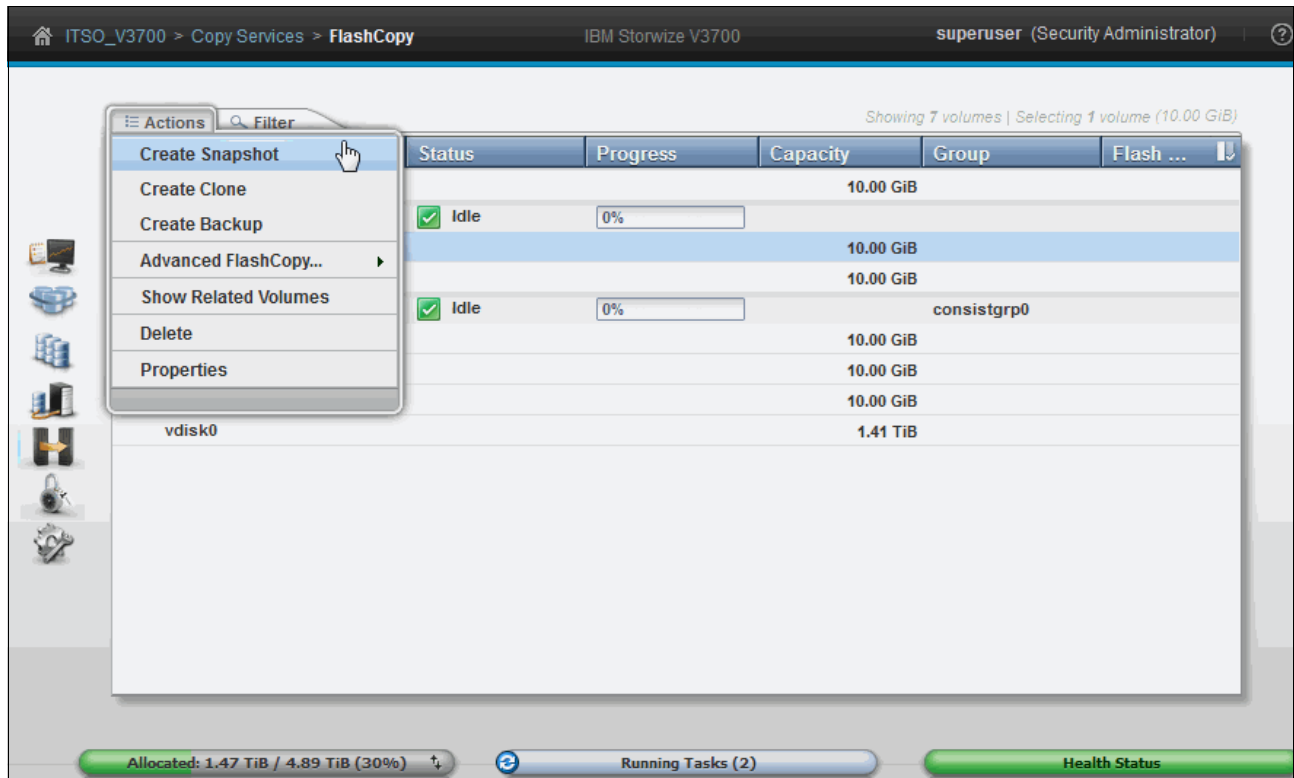

Figure 10-8 Create a snapshot using the preset
1. In the FlashCopy window, choose a volume and click **Create Snapshot** from the **Actions** menu, as shown in Figure 10-8.